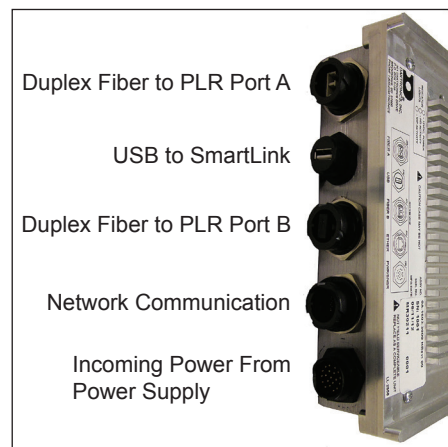

Figure 16: DMP-8065 Jacks
2. Disconnect the duplex fiber to PLR port A from the DMP-8065. Refer to **Figure 16**.